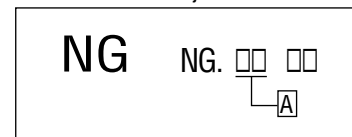

Fig.7-1-19
1) From the adjustment status display screen at “NG” (Fig.7-1-19), read a 2-digit number at part “A”.